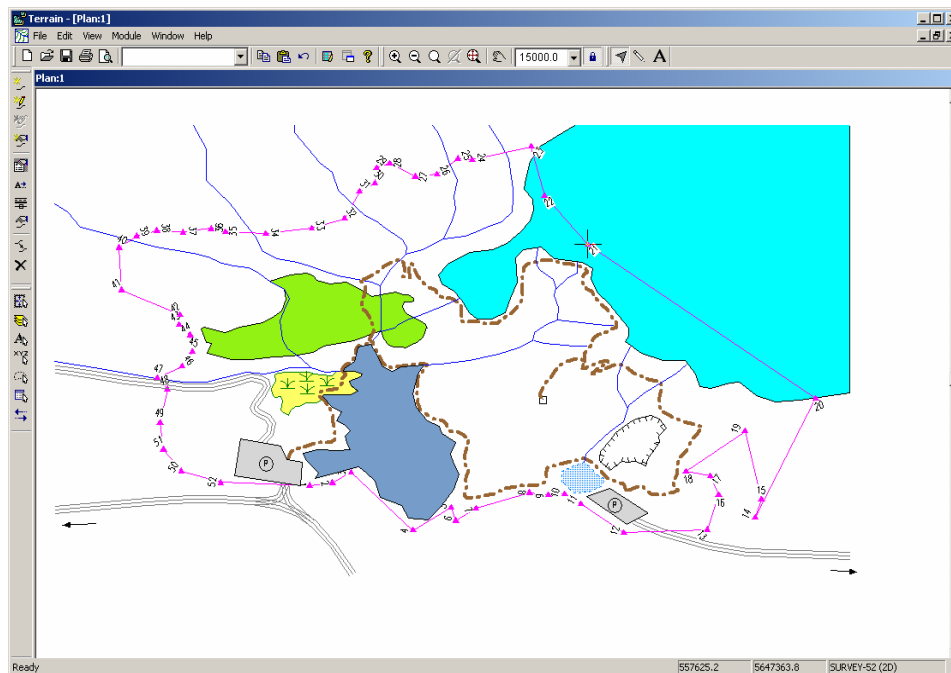

Figure 3.23: Park Boundary
7. Edit | Modify Selected Feature(s) | Close. The boundary will close and the map should look like Figure 3.23.